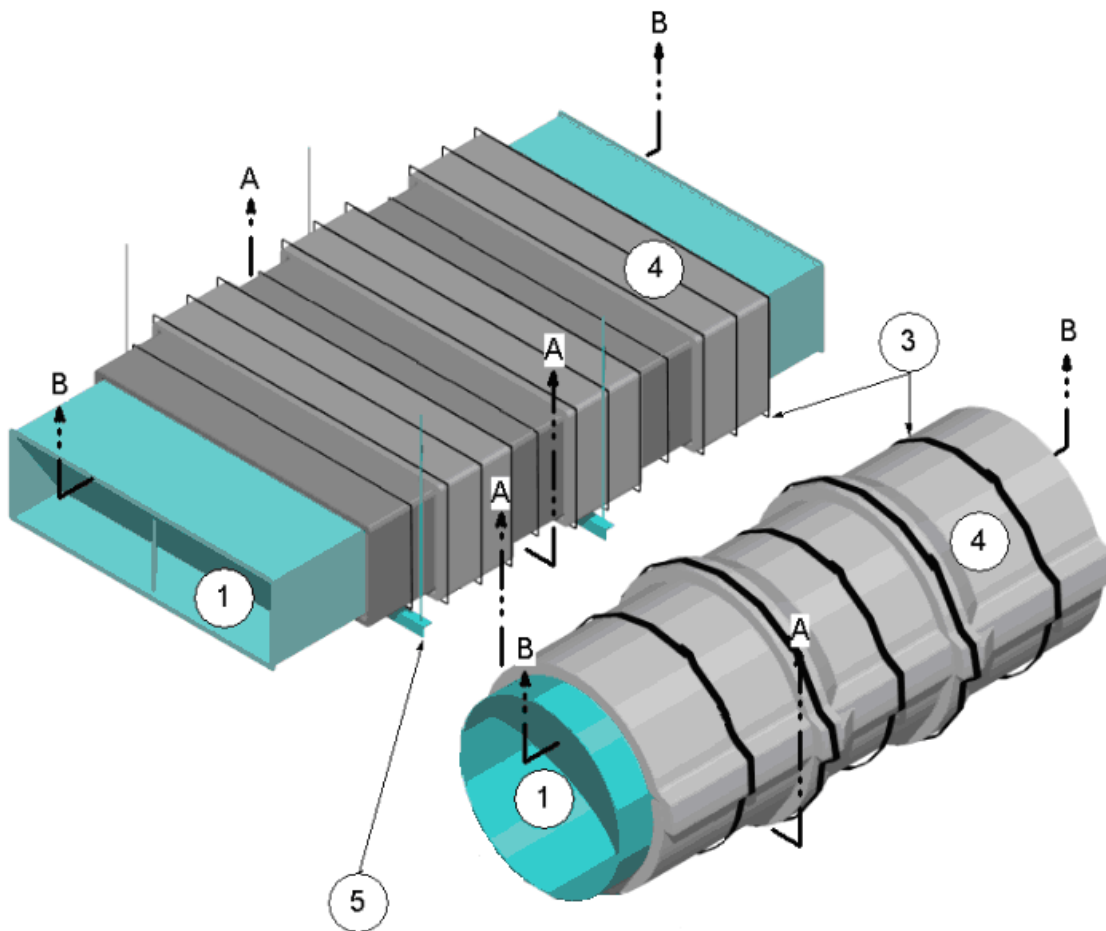

Figure 1
1. VENTILATION DUCT: Refer to Figure 1. Continuous, air-tight, rectangular or circular duct system with either horizontally or vertically oriented shafts constructed of sheet steel with a max.